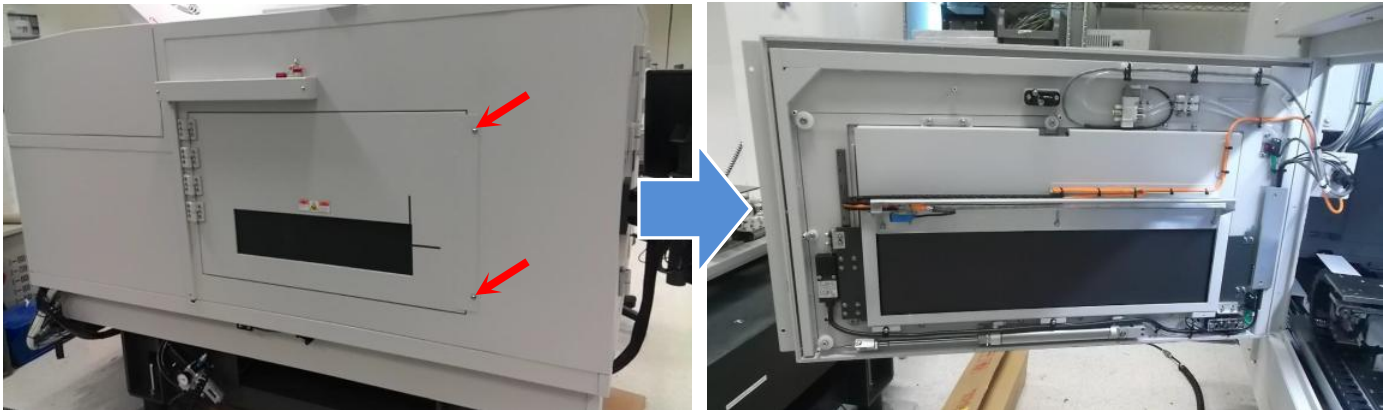

Figure 1 Left Outer Barrier (Open)
4. Loosen 2 x Tamper Proof screws as below Figure 1. Gently open outer barrier